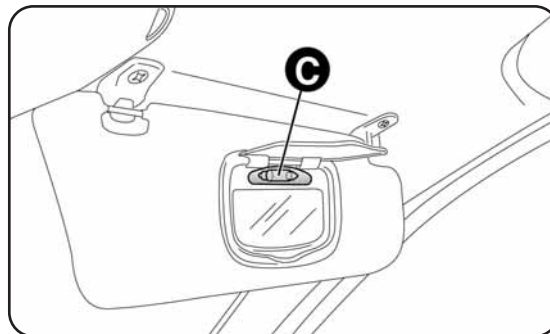

fig. 36
- replace bulb C-fig. 36 releasing it from the side contacts and making sure the new bulb is correctly fastened between the contacts.